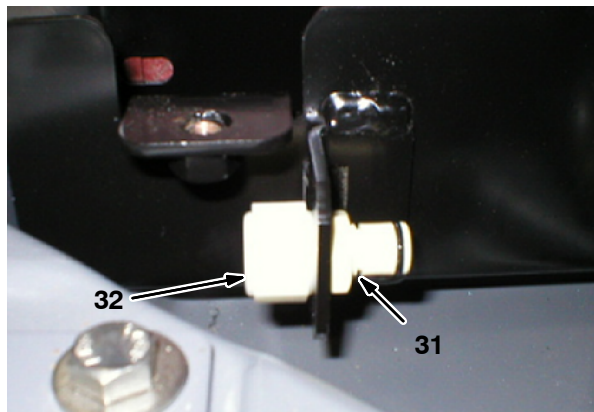
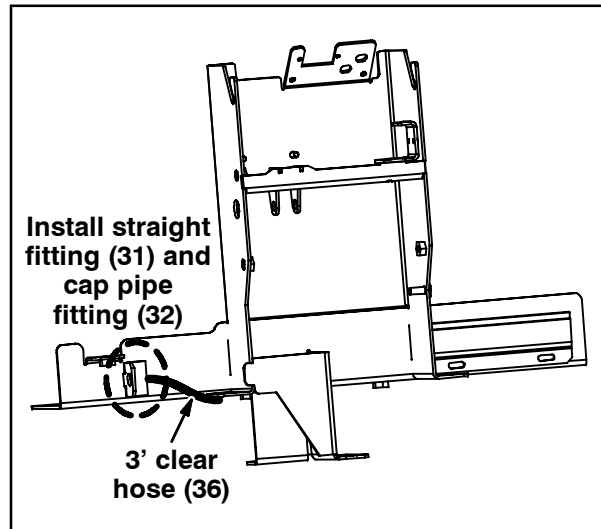

FIG. 14
FIG. 15
23. Install the straight plastic fitting (31) and the cap fitting (32) onto the actuator tower. Refer to Fig. 14 and Fig. 15.